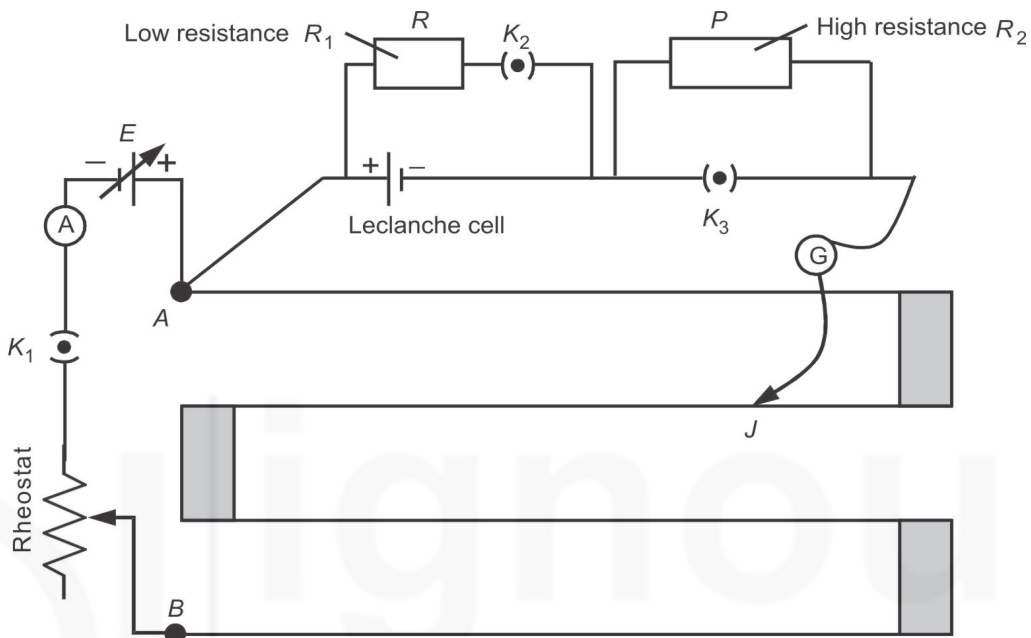

Fig. 10.4: Experimental arrangement to measure internal resistance using a potential divider arrangement.
Now that you know the principle, you can set up the experiment. Make the circuit connections as shown in Fig. 10.4.
1. Gather the apparatus required including the Leclanche cell. Place the potentiometer, preferably with a 10 m long wire (AB), on the table where the experiment is to be done.
3. Now make the circuit connections shown in Fig. 10.4.
5. Connect the rheostat in the circuit: Connect the positive terminal of the battery/DC power source to one of the lower terminals of the rheostat. Connect the other lower terminal of the rheostat to the negative terminal of the battery through an ammeter and a one way key K_1 as shown in Fig. 10.4. In this way, the entire e.m.f. of the battery or DC power source will be available across the rheostat. Connect the upper terminal on the other side of the rheostat to end B of the potentiometer wire.
6. Note that you have to connect the Leclanche cell between the end A and the galvanometer G as shown in Fig. 10.4. Keep the Leclanche cell ready but do not connect it right away.
Caution: Connect the Leclanche cell only after you have understood the procedure, made all other connections in the circuit and are ready to do the experiment. Note that you have to connect the positive terminal of the Leclanche cell to A . Connect its negative terminal to G only through the high resistance R_2 and the one-way key K_3 as shown in Fig. 10.4.